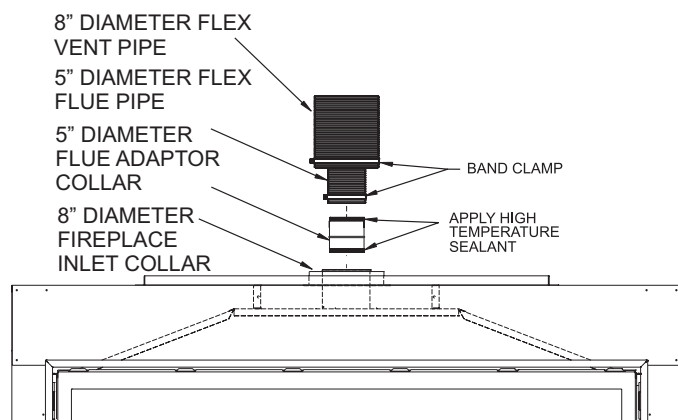

Figure 56
10. Apply sealant to the outside of the flue pipe adapter and connect to the flexible venting. Then insert the adapter into the fireplace flue. Secure flue adapter to the fireplace flue with a minimum of 2 screws provided. **See Figure 56.**